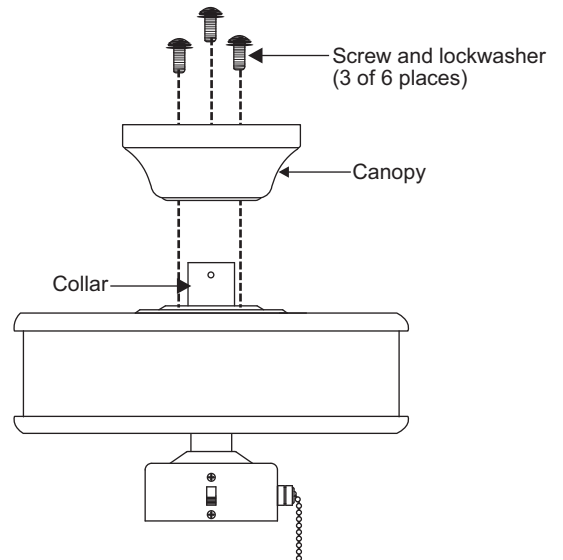

Figure 9
4. Remove three of the six screws and lock washers (every other one) from the collar of top motor. (Fig. 9)
5. Place the ceiling canopy over the collar at the top of the motor. Align the mounting holes with the holes in the motor and fasten using the screws and lock washers provided. (Fig. 9)